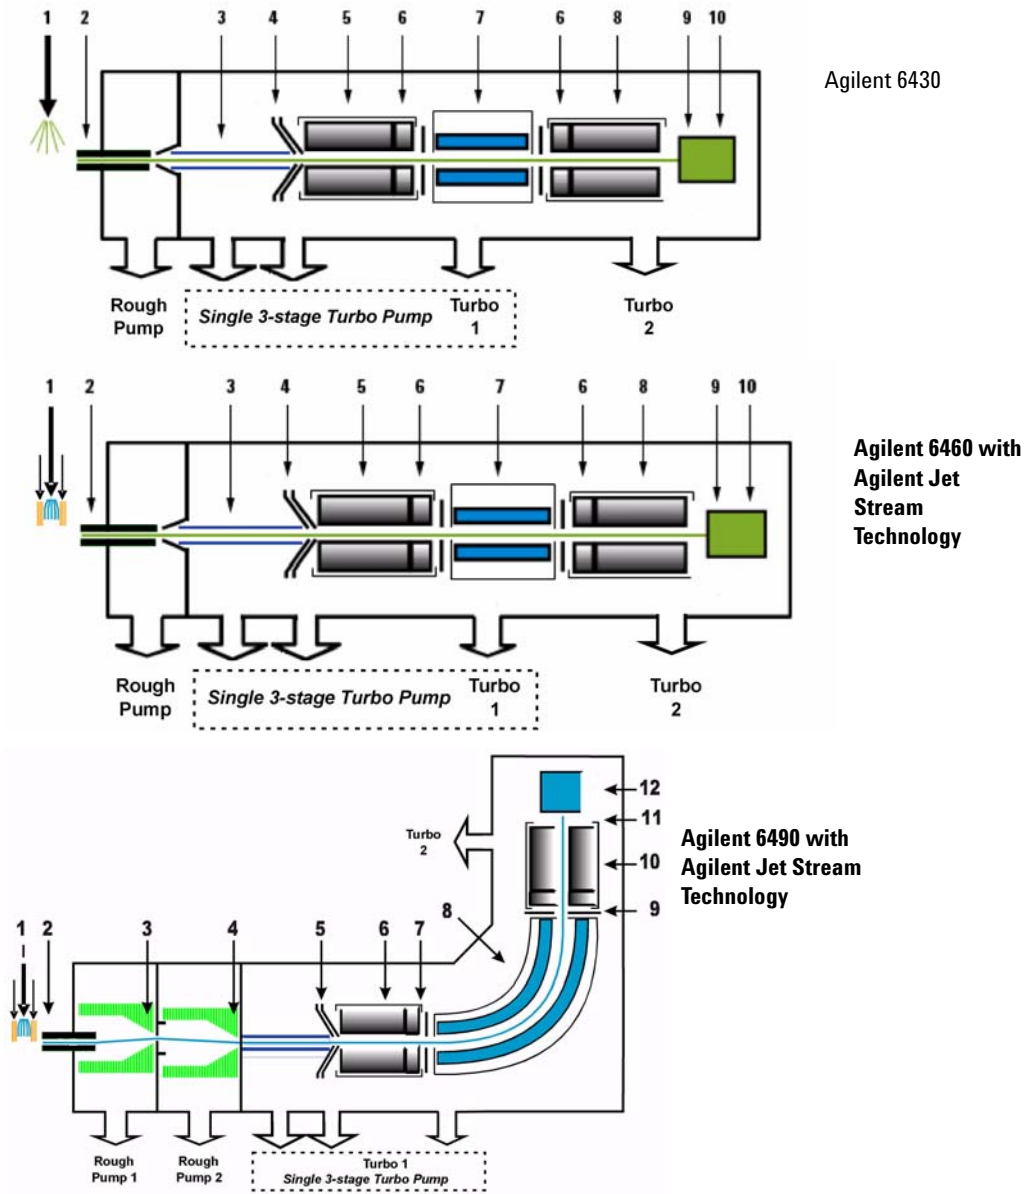

Figure 17 Multiple sources of noise
Triple quadrupole mass spectrometers exhibit multiple sources of noise, including noise from all chemical and cluster backgrounds and electronic noise (Figure 17).
The problem of noise must be addressed at several stages of the instrumentation from the ion source (1) to the detector (10) in Figure 17.
This section describes in more detail how each of the components of the Agilent 6400 Series Triple Quadrupole MS contributes to reducing noise (Figure 17).